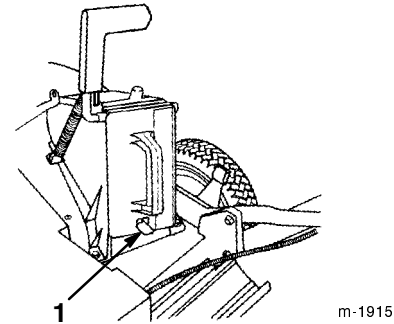

Figure 4
3. Push the plug all the way in until the spring clip on the bottom of the plug clicks into place, locking the plug securely into the discharge tunnel (Fig. 4).